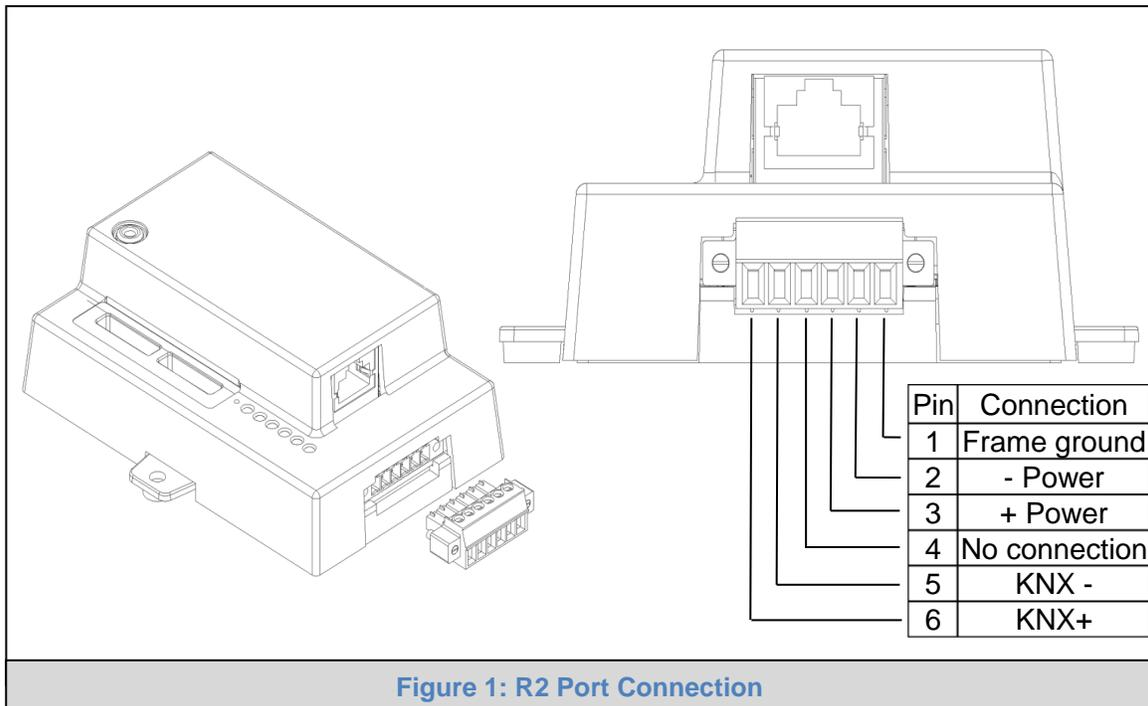

Figure 1: R2 Port Connection
- Figure 1: R2 Port Connection6